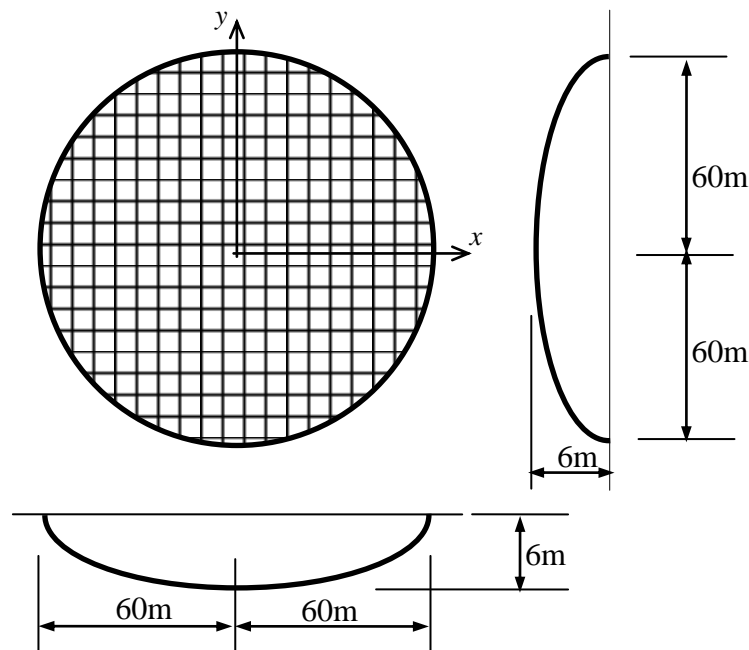

Figure 5
- (c) Explain briefly how vertical downward and uplift forces are resisted in structures with anticlastic surface. Figure 5 shows a proposed circular tensioned roof with diameter of 120 m. The architect in-charge of the project would like to use architectural fabrics for the roof. Give your opinion based on suitable design calculation if architectural fabrics can be used. It is given that the architectural fabrics to be used has dry-strip tensile strength of 175 kN/m. Use dead and live loads of 0.950 kN/m2 for preliminary design purpose.